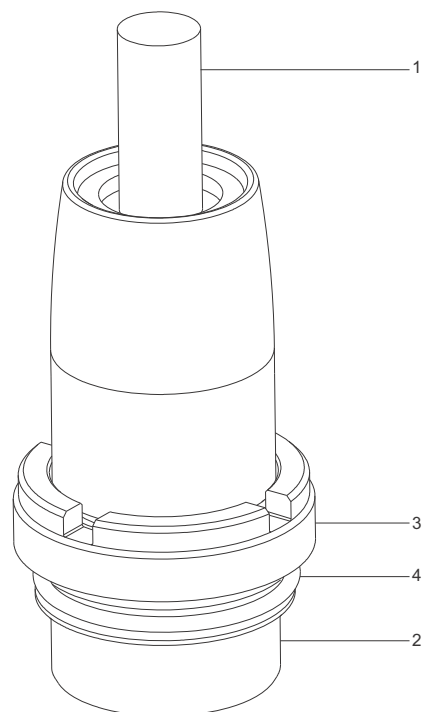

Fig. 1
Check the O-ring and the connection surface (see fig. 1 pos. 2 and 4). If visible damage is detected, replace the cable.